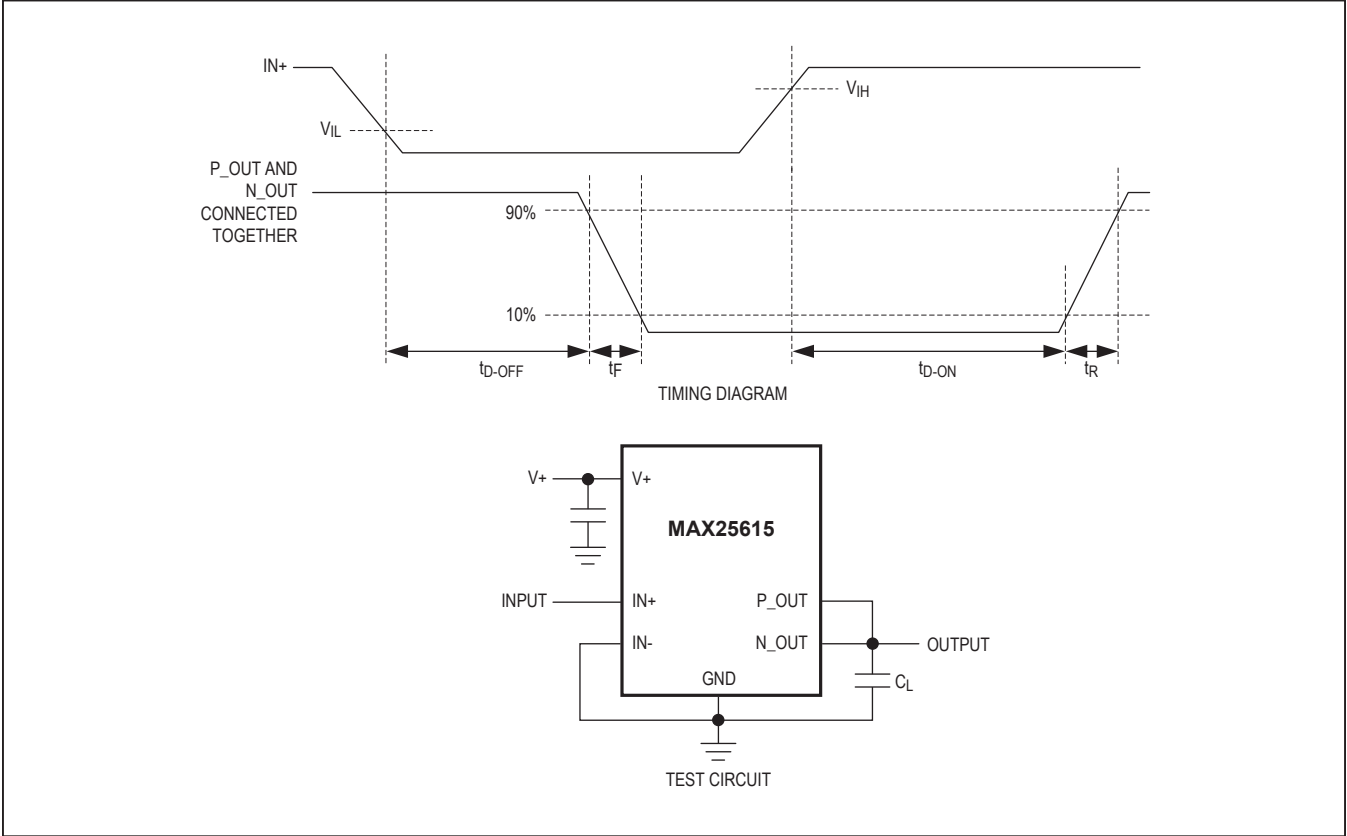

Figure 1. Timing Diagram and Test Circuit
(V+ = +12V, CL = 0F, TA = TJ = -40°C to +125°C, unless otherwise noted. Typical values are at TA = +25°C. see Figure 1.) (Note 3)
**Electrical Characteristics (continued)**(V+ = +12V, CL = 0F, TA = TJ = -40°C to +125°C, unless otherwise noted. Typical values are at TA = +25°C. see Figure 1.) (Note 3)
SWITCHING CHARACTERISTICS FOR V+ = +12V (Figure 1)
SWITCHING CHARACTERISTICS FOR V+ = +4.5V (Figure 1)
( $C_L = 1000\text{pF}$ ,  $T_A = +25^\circ\text{C}$ , unless otherwise noted. See Figure 1.)
**Typical Operating Characteristics (continued)**(CL = 1000pF, TA = +25°C, unless otherwise noted. See Figure 1.)**INPUT VOLTAGE vs. OUTPUT VOLTAGE**